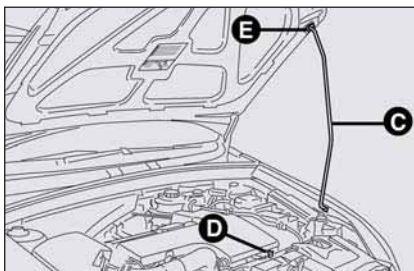

fig. 118
- ☐ lift the bonnet and at the same time release the rod **C fig. 118** from the catch **D**, then fit the rod end into the bonnet recess **E**.
TO CLOSE THE BONNET fig. 118